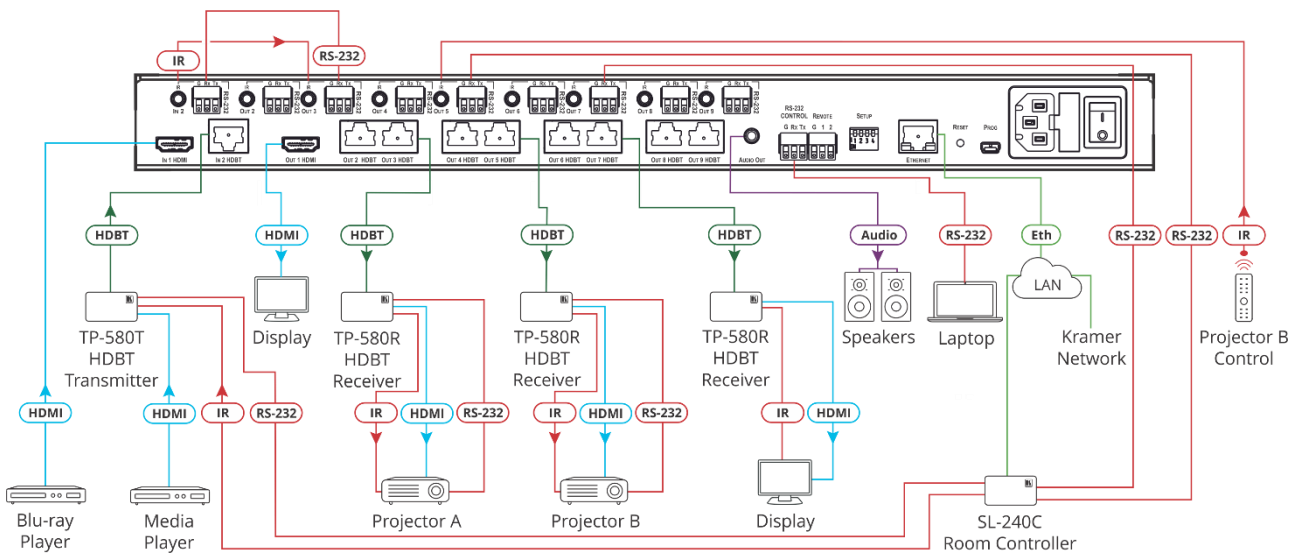

Figure 4: Connecting to VM-218DT
To connect the **VM-218DT** as illustrated in the example in Figure 4:
1. Connect an HDMI source (for example, a Blu-ray player) to the IN 1 HDMI connector (14).
2. Connect an HDBT transmitter (for example, Kramer **TP-580T**) to the IN 2 HDBT RJ-45 connector (15).
3. Connect the OUT 1 HDMI connector (18) to an HDMI acceptor (for example, a display).
4. Connect the 8 OUT HDBT RJ-45 connectors (19) (2 to 9) to up to 8 HDBT receivers (for example, Kramer **TP-580R** receivers).
5. Connect the AUDIO OUT 3.5mm mini jack (20) to an analog audio acceptor (for example, Kramer **Tavor 6-O** speakers).
6. Connect the RS-232 terminal block connector (21) to a serial control device (for example, a laptop) to control the **VM-218DT**.
7. Connect the Ethernet RJ-45 port (24) to the Ethernet LAN to control the **VM-218DT** and its peripheral devices and/or to a room controller (for example, Kramer **SL-240C**).
8. Connect the power adapter to the **VM-218DT** and to the mains electricity (27) (not shown in Figure 4).
The USB connector \(26\) and power cord are not shown in Figure 4.